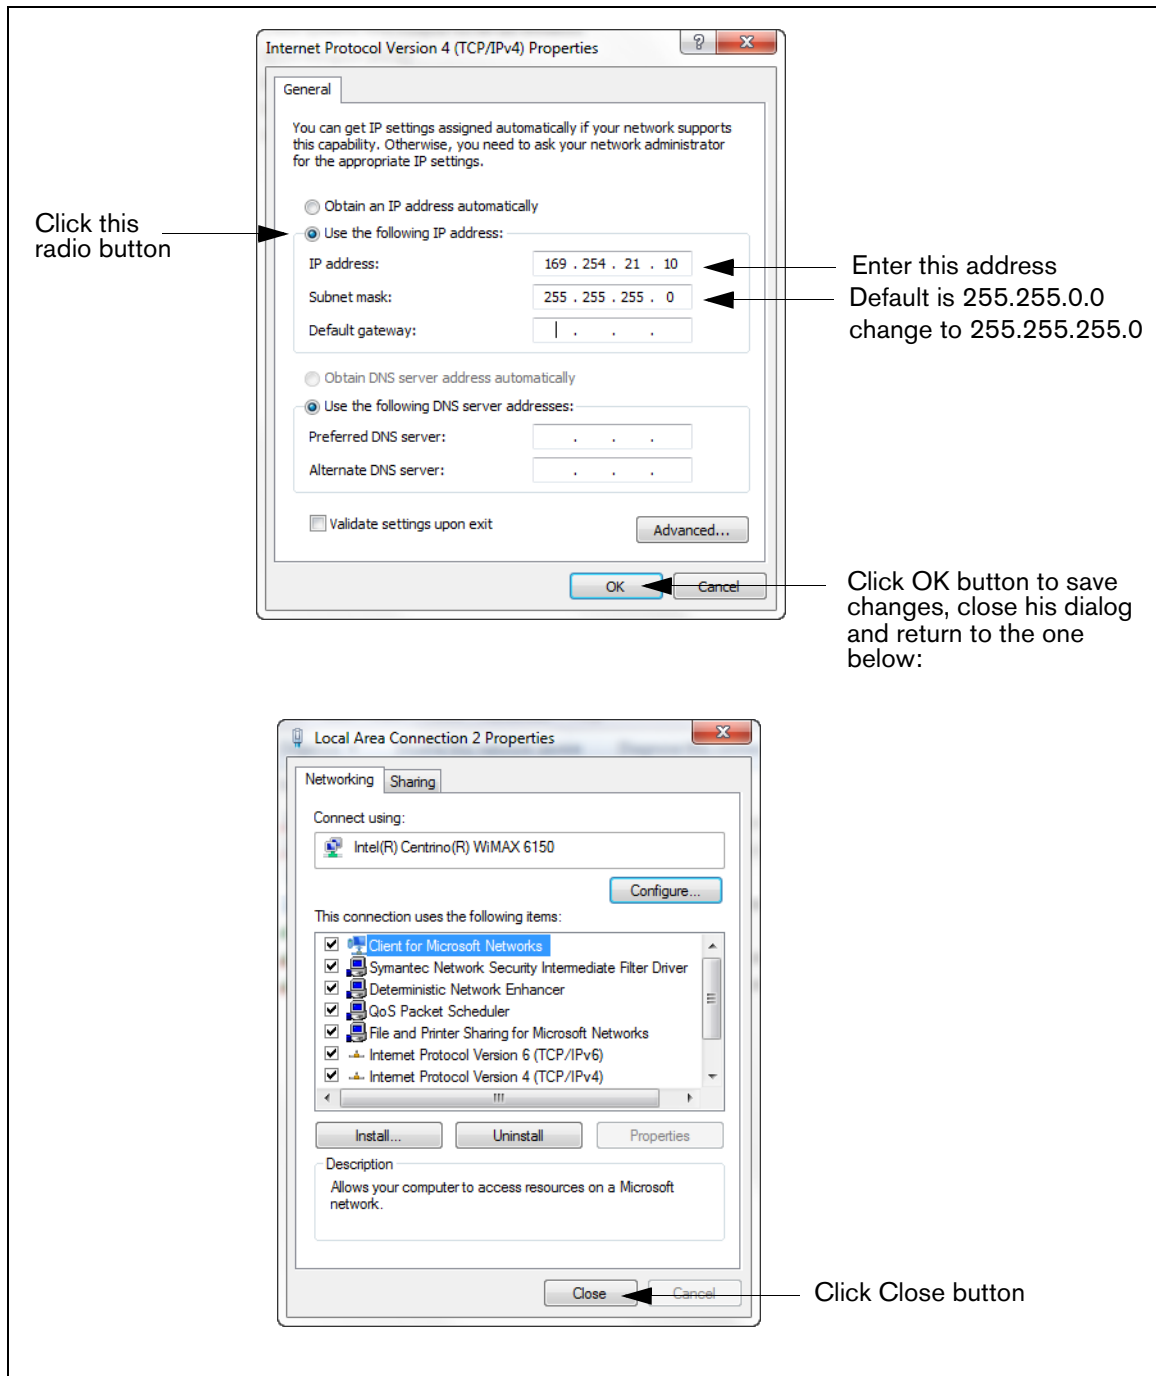

Figure B-3. Internet Protocol Version 4 (TCP/IPv4) Properties dialog box selections
5. When the Internet Protocol Version 4 (TCP/IPv4) Properties dialog box opens make the selections shown in Figure B-3.